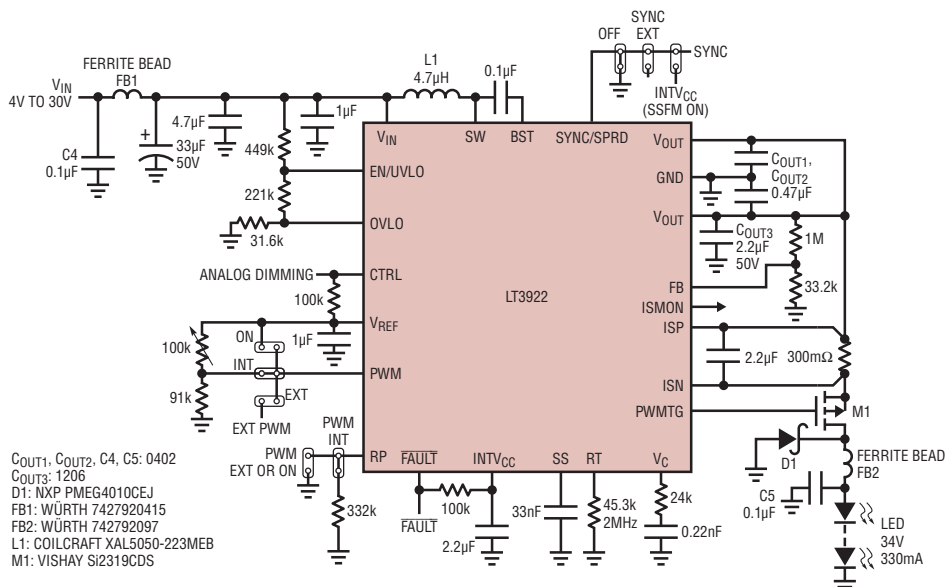

Figure 1. 2MHz Automotive Boost LED Driver Features Low EMI and Internally Generated PWM Dimming Has 91% Efficiency and Passes CISPR 25 Class 5 EMI
UDC's focus is on the emissive layer of the OLED device (Fig. 1). We have developed and commercialized proprietary phosphorescent OLED materials and technologies that enable OLED TVs to be high performing, very power efficient, and have good lifetimes. Other commercial emissive layer systems are based on conventional fluorescent OLEDs, which have only about one-quarter the efficiency of UDC's Universal-PHOLED technology. Virtually all commercial OLED displays use UDC's materials and technologies.
The solar day lamp (Fig. 1) uses a photovoltaic (PV) panel with a 10-W rating. The voltage at maximum power (V_{MP}) is 17.3 V, and two identical arrays of LEDs are connected in parallel to the output of this panel. Each array consists of five white LEDs (LEDs 1-5 and LEDs 6-10) rated at 1 W each, and has series resistance of $22\ \Omega$ and power rating of 2 W (R1 and R2) to control the current into its LED string.
ADJUSTABLE VOLTAGE REFERENCES offer great flexibility to circuit designers because the reference isn't limited to the manufacturer's preset values. The adjustable output is typically configured with a voltage divider from the output to the feedback pin (*Fig. 1*). To regulate the output, the circuit compares the voltage at the feedback pin to an internal reference (shown in this article as V_{REF_INT}), typically 1.2 V. The device adjusts the output until V_{FB} and V_{REF_INT} match.